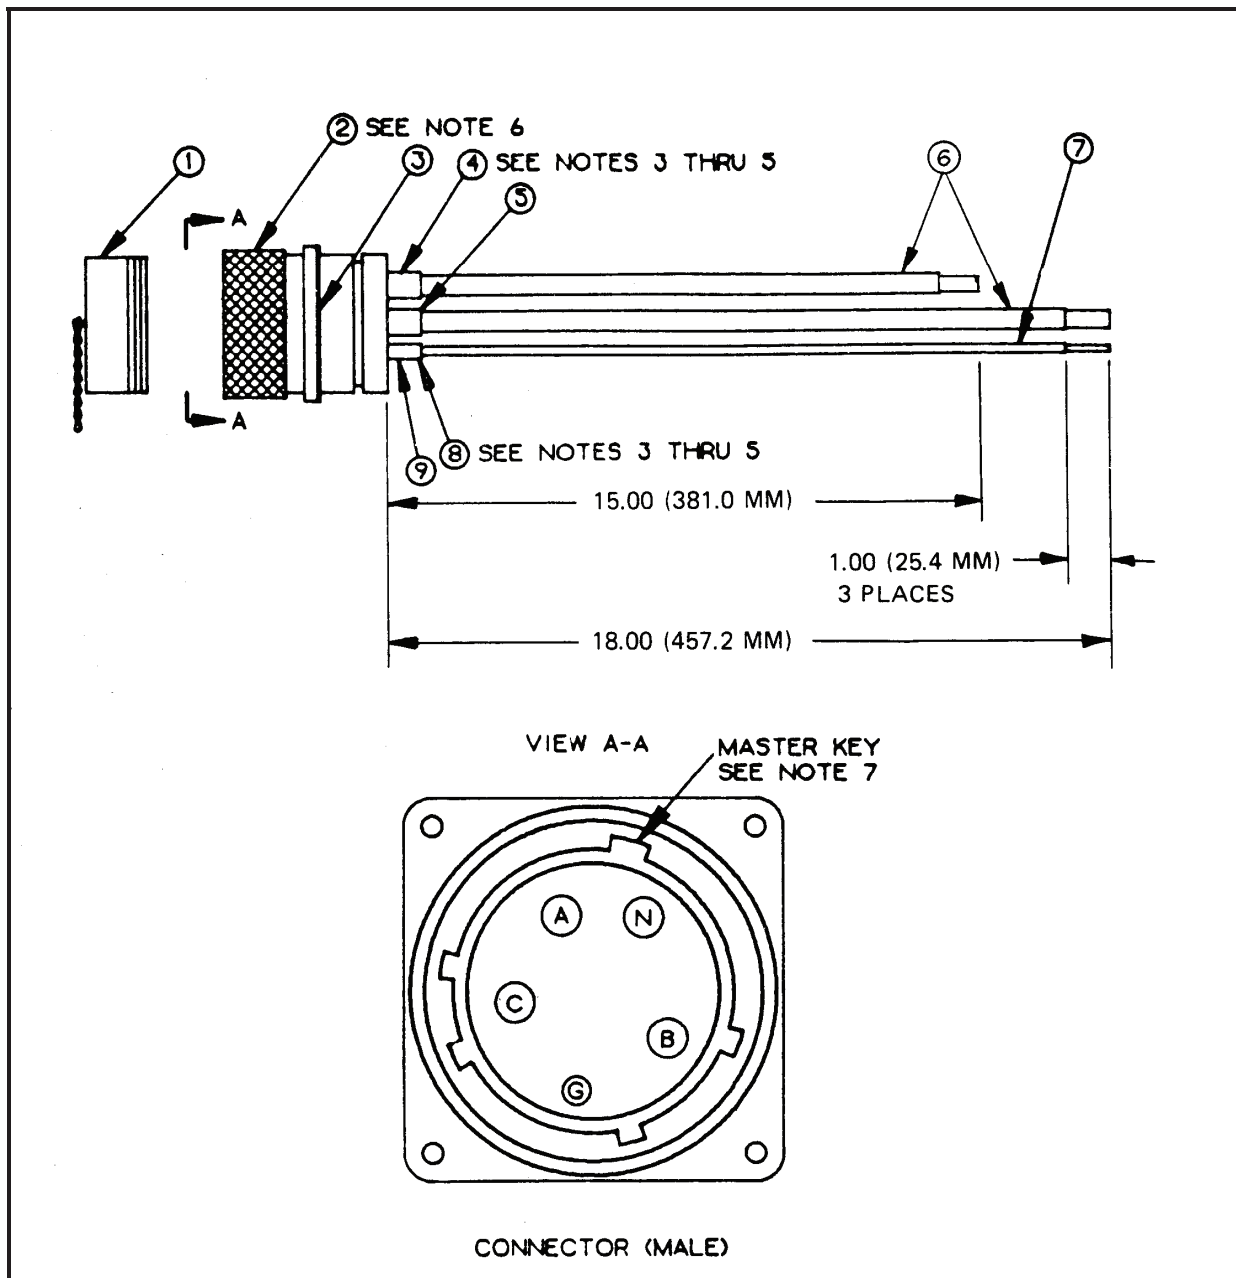

Figure F-29. Distribution Center Input Connector Assembly, M40 A/P (PDISE), 40-Amp (J1)
F-29 (Distribution Center Input Connector Assembly, M40 A/P (PDISE), 40-Amp (J1))**Component Legend for Figure F-29**
- c. Electrical connector (Figure F-29, Item 2) is furnished with the following: